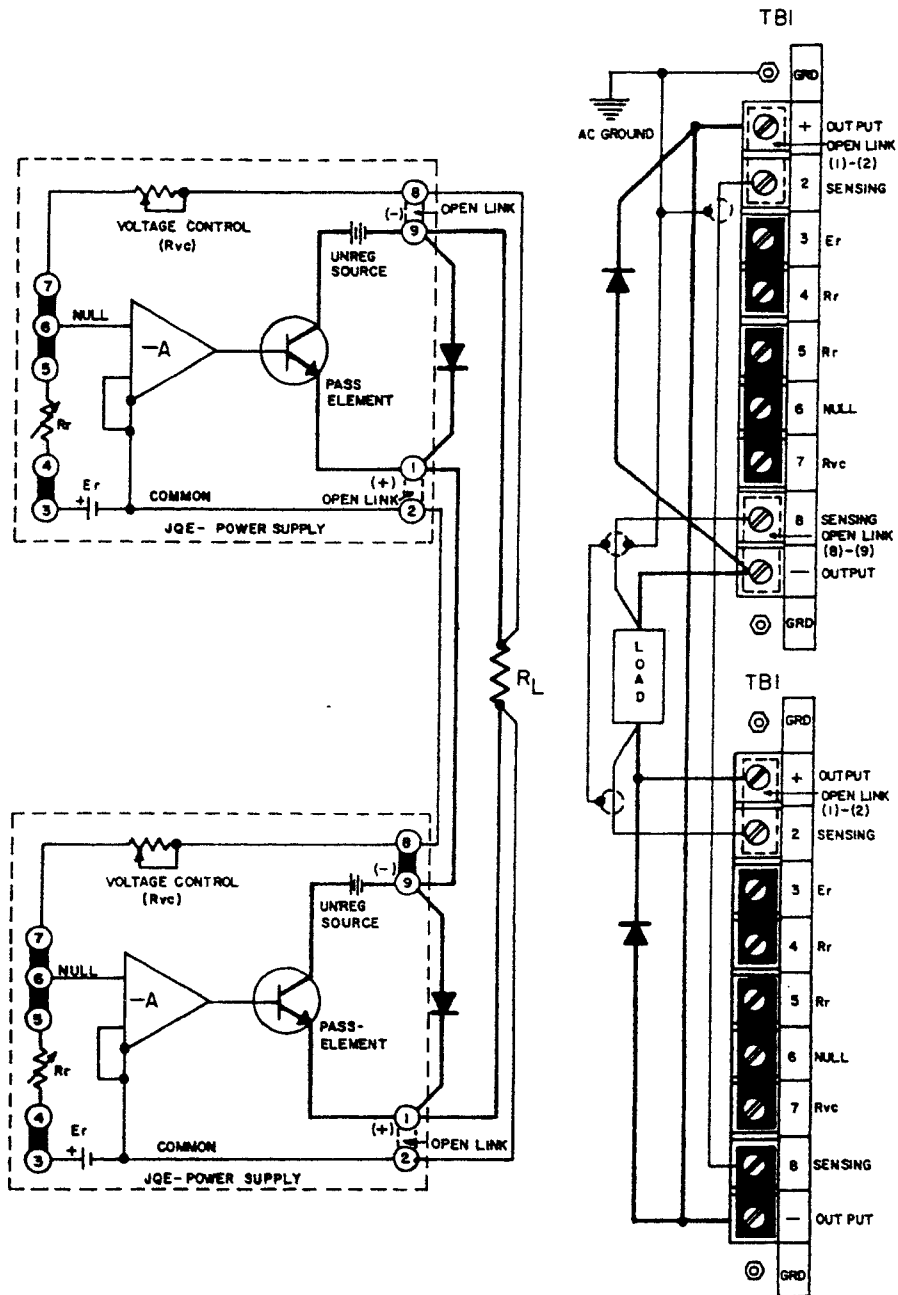

FIG. 3-11 AUTOMATIC SERIES CONNECTION OF JQE POWER SUPPLIES
**3-35 GENERAL.** Kepco JQE Power Supplies can be series-connected for increased voltage output, provided the specified limits on voltage to chassis are not exceeded. When series-connected, the supplies should be protected by means of a semi-conductor diode across the output terminals of each power supply, as shown in FIG. 3-11. The peak inverse rating of these diodes must be at least as large as the output voltage of the supply to which they are connected. The continuous current rating of the diodes should be at least as great as the maximum output current of the interconnected supplies.
- Connect load as shown in FIG. 3-11. Keep voltage drop in load wires as low as practical by using heavy gauge wire.
3-37 An alternate method of series-connecting two or more power supplies is shown in FIG. 3-12. The basic difference between the "Automatic" series connection, shown in FIG. 3-11, and the "Master-Slave" connection (FIG. 3-12) is that with the former connection the outputs of both supplies may be controlled or programmed individually, while with the latter method only the "Master" supply is controlled, while the "Slave" supply follows the command of the "Master" in a ratio which may be pre-determined by the user. The "Master-Slave" series connection is therefore often termed an "Automatic Tracking" configuration.